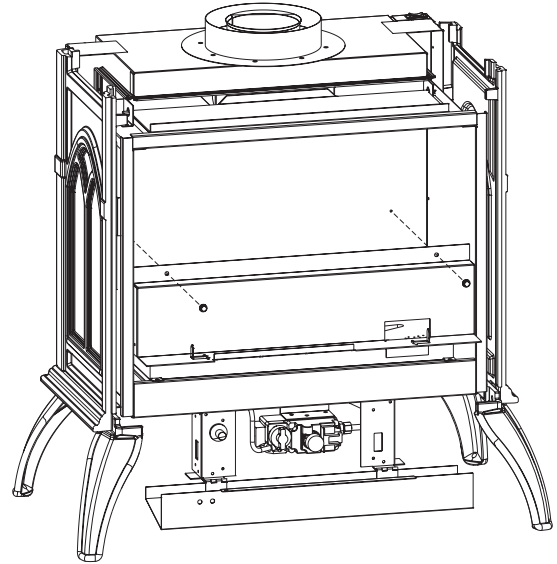

Figure 11
5. Remove the log shelf by removing the (2) screws securing the log shelf to the rear wall. See Figure 11.
12. Replace the log shelf by replacing the (2) screws securing the log shelf to the rear wall. See Figure 11.